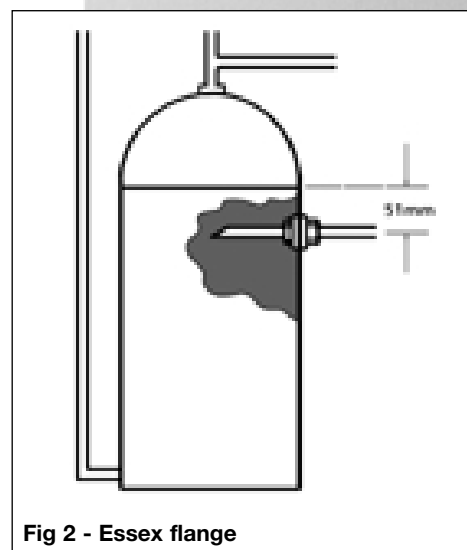

Fig 2 - Essex flange
4. If this is not possible, a direct connection must be made from the hot water cylinder with a cylinder flange, Fig 2.